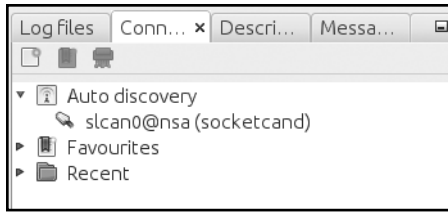

Figure 3-4: Finding Auto Discovery under the Connections tab
3. Click the **Connections** tab at the right; your socketcan should show up under Auto Discovery (see Figure 3-4).